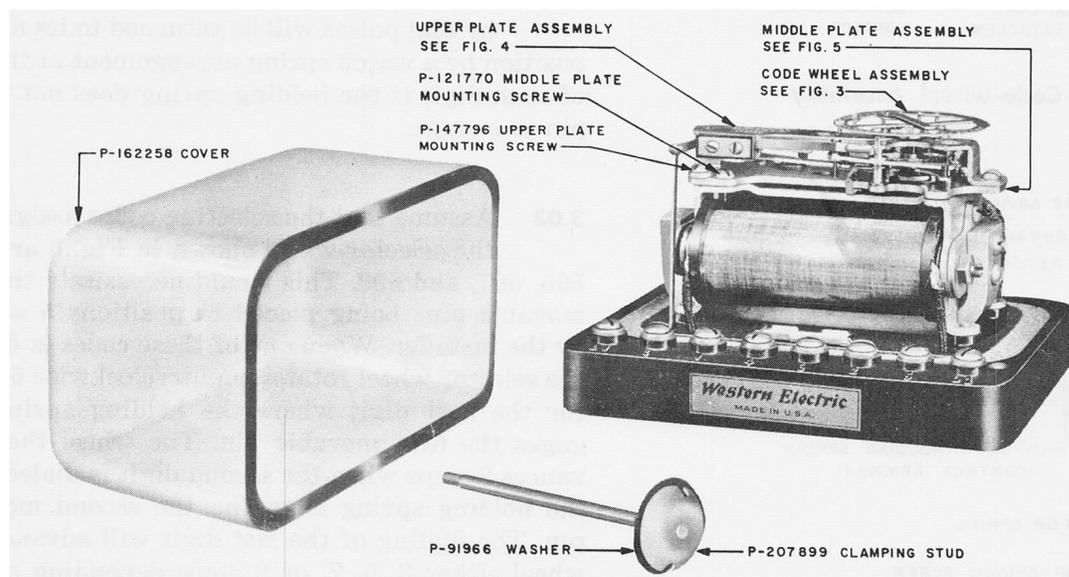
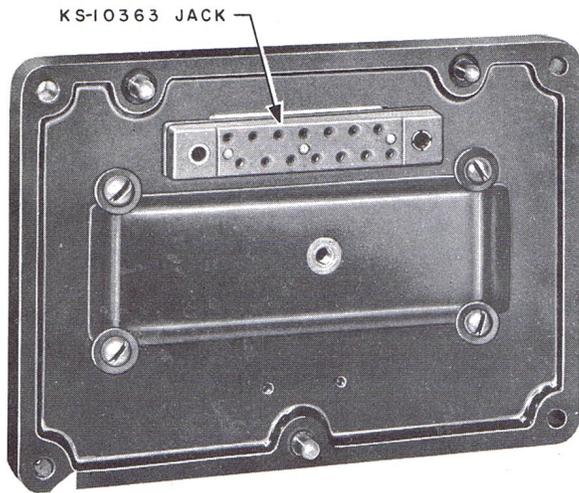

Fig. 1 — 60BA, BC, BP, BR, and D-151294 Selectors
Fig. 2 - 66A and D-175279 Selectors, Base
2.01 The 60-type selector, Fig. 1, 3, 4, and 5, is known as a step-by-step multiple contact selector. It is mounted on a bakelite base and is equipped with a glass cover. It has two polarized magnet coils located parallel to each other. An armature is arranged to pivot between the two poles on receipt of reverse current impulses through the windings. Motion of the armature in either direction is transmitted to a feed pawl in
2.03 The 66A and D-175279 selectors are the same as the selectors shown in Fig. 1, except that they have two ringing-position terminals and one designated for plug-in connection by means of a jack on the underside of the base as shown in Fig. 2.